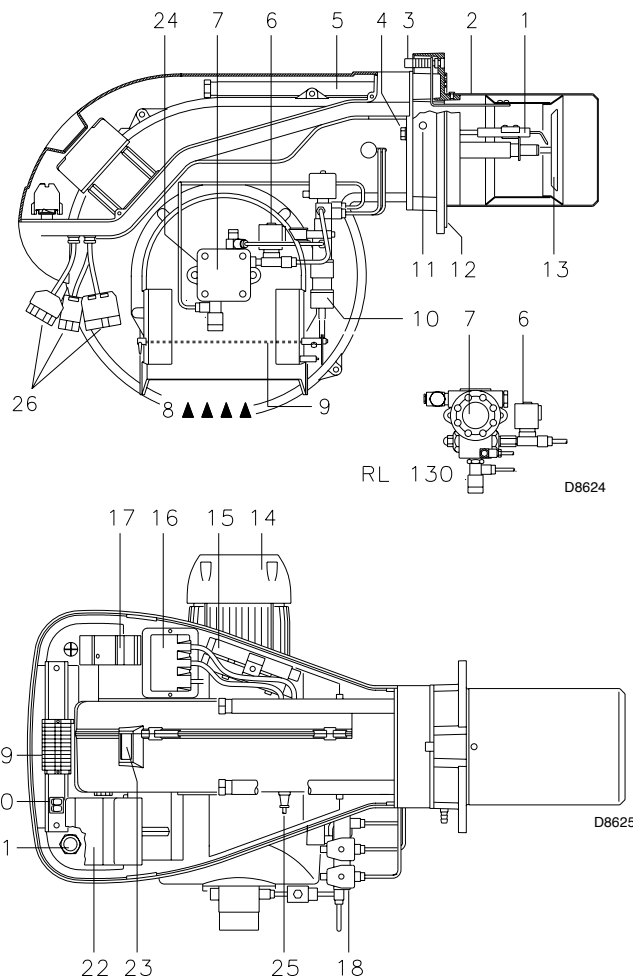

Fig. 5
- (1) Reference conditions: ambient temperature 20°C - Barometric pressure 1013 mbar - Altitude 0 m a.s.l.
(2) Pressure at test point 18)(Fig. 5 at page 12) with zero pressure in the combustion chamber and maximum burner output.
(3) Sound pressure measured in manufacturer's combustion laboratory, with burner operating on test boiler and at maximum rated output.
Control box lock-out: if the control box 22)(Fig. 5) pushbutton (red led) lights up, it indicates that the burner is in lock-out.
Motor trip: release by pressing the pushbutton on thermal cutout 17)(Fig. 5).
- 2 - Extensions 15)(Fig. 5) for slide bars 5)(Fig. 5) (for models with 385 mm blast tube)